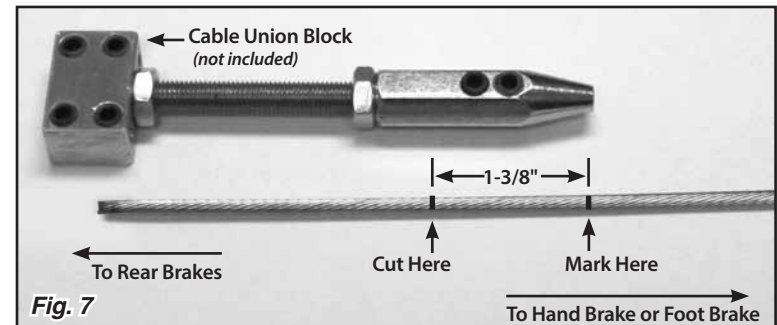

Fig. 7
Step 11: Measure 1-3/8" further towards the rear end of the inner wire and make a second mark. Cut the inner wire at the second mark, so that approximately 1-3/8" of the inner wire can be inserted into the single wire union assembly. Fig. 7